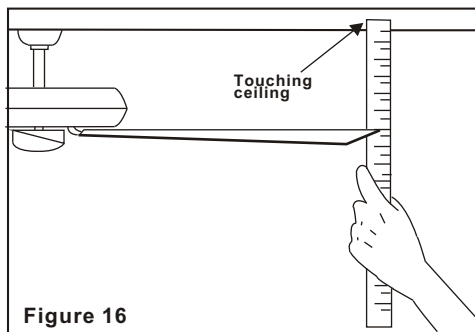

Figure 16
2. Most fan wobbling problems are caused when blade levels are unequal. Check this level by selecting a point on the ceiling above the tip of one of the blades. Measure this distance as shown in Figure 16. Rotate the fan until the next blade is positioned for measurement. Repeat for each blade. The distance deviation should be equal within 1/8".